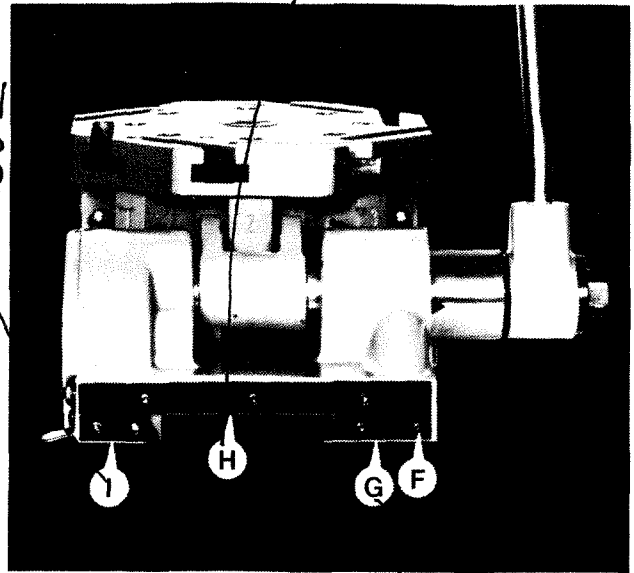

Figure 2.28 - Dovetail Wipers for Cross Slide
12. Remove seven screws "F" and three wipers "G", "H", and "I", Figure 2.28 .
30. Use screws "F" to remount wipers "G", "H", and "I", Figure 2.28 .